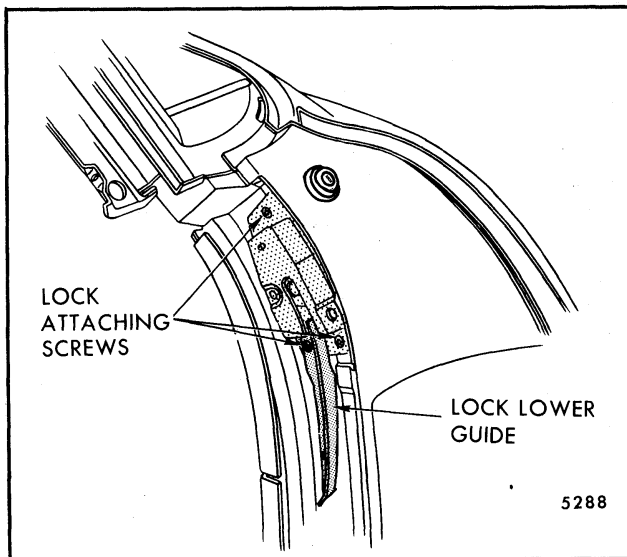

Fig. 7-145-Lock and Lock Lower Guide Attachment
4. For either manual or electric tailgates, remove lock attaching bolts at pillar facing and remove lock and lock lower guide (Fig. 7-145).